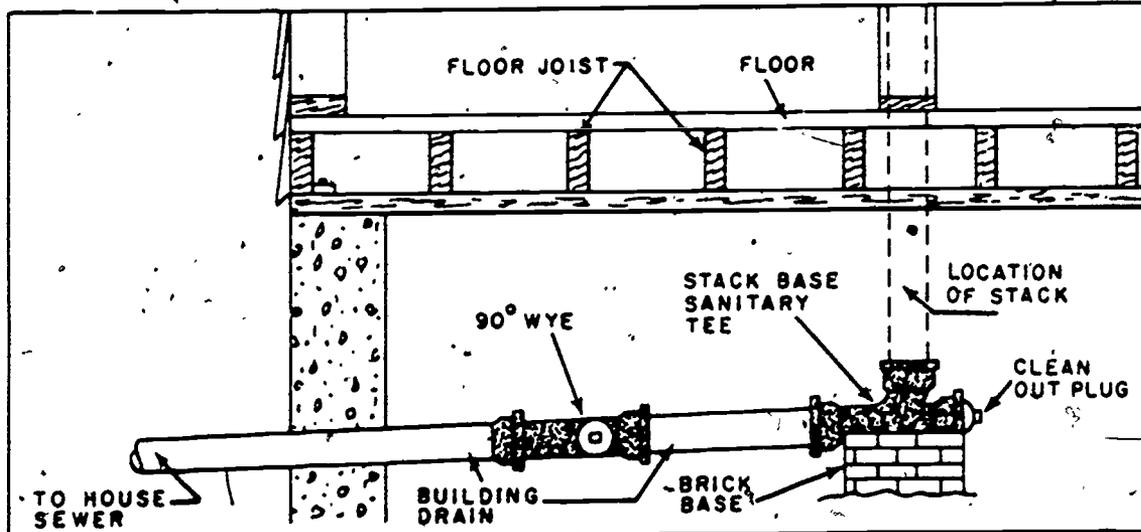

Figure 2-10. Building drain and stacks.
the system under the building, shown in figure 2-10, which receives the discharge from the soil and waste stacks and carries it to the building sewer. You must plan carefully when laying out the building drain and locating the fittings for the soil and waste pipes, which are made of cast iron, copper, or plastic.
The building drain usually begins at a point of connection with a soil or waste stack and continues to a point at least 3 feet outside the building foundation for tie-in to the house sewer, as illustrated in figure 2-10. The drain is located below the floor and may be partially underground or suspended from the basement ceiling. The upper end of the drain is usually attached to a combination wye and 1/8 bend which rests on a brick or concrete base in constructions without basements. In constructions with basements, the combination wye and 1/8 bend and building drain are anchored rigidly to the floor joists. The combination wye and 1/8 bend is usually equipped with a cleanout plug and acts as a base for the stack. The stack is the vertical pipe which directs the sewage flow from above to the drain. The number of stacks required and their exact locations are determined by the location of the fixtures.
**Exercises (217):**
**Installation of the Building Drain.** After you have determined the location of the building drain and the stack, you are ready to make the installation. The fitting, which serves as a stack base on which the stack is constructed, must be positioned and installed when the building drain is fabricated. Figure 2-10, illustrated how a sanitary tee is used as a stack base. Notice the cleanout plug, which is installed in the tee for future maintenance of the system. The 90° wye in the building drain was installed, in this case, to connect a 4-inch waste pipe to serve the kitchen area of the building. The blocking under the stack base is necessary to position the fitting under the floor opening for the stack and to prevent the stack base from settling when the weight of the stack is added. The building drain is positioned to grade, and the fall should not exceed 1/4 inch per foot of run. After the location of the fittings in the drain is determined, the measurement for the pipe run between the fittings can be determined. The measurements between the fittings must be made between the center of the fittings.